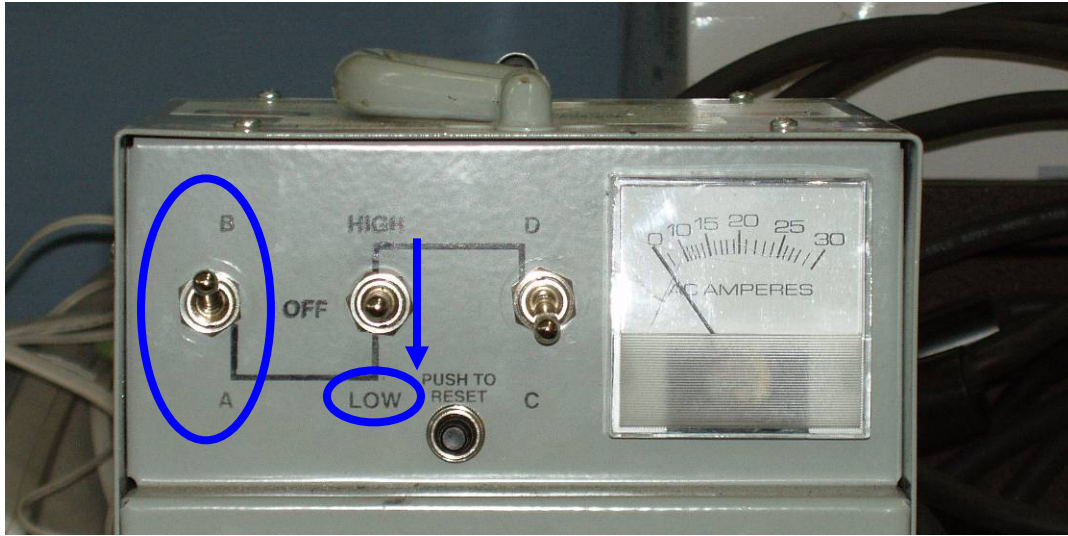

Figure 17- Front Face- "Nibco" Braze Unit Control
- 6.12.8 Set the toggle switch on the control unit to "B". [Figure 17- Front Face- "Nibco" Braze Unit Control]